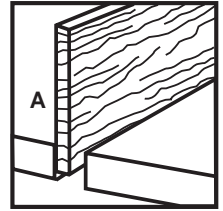

Figure 32
2. Clamp board A to a workbench or clamping table. See Figure 32.